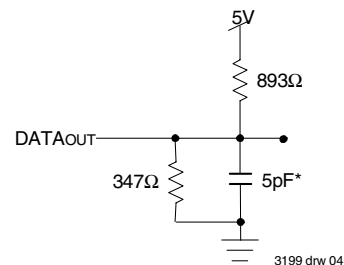

Figure 2. Output Test Load
1. Transition is measured 0mV from Low or High-impedance voltage with Output Test Load (Figure 2).
- Transition is measured 0mV from Low or High-impedance voltage with Output Test Load (Figure 2).
7. This parameter is guaranteed by device characterization, but is not production tested. Transition is measured 0mV from steady state with the Output Test Load (Figure 2).